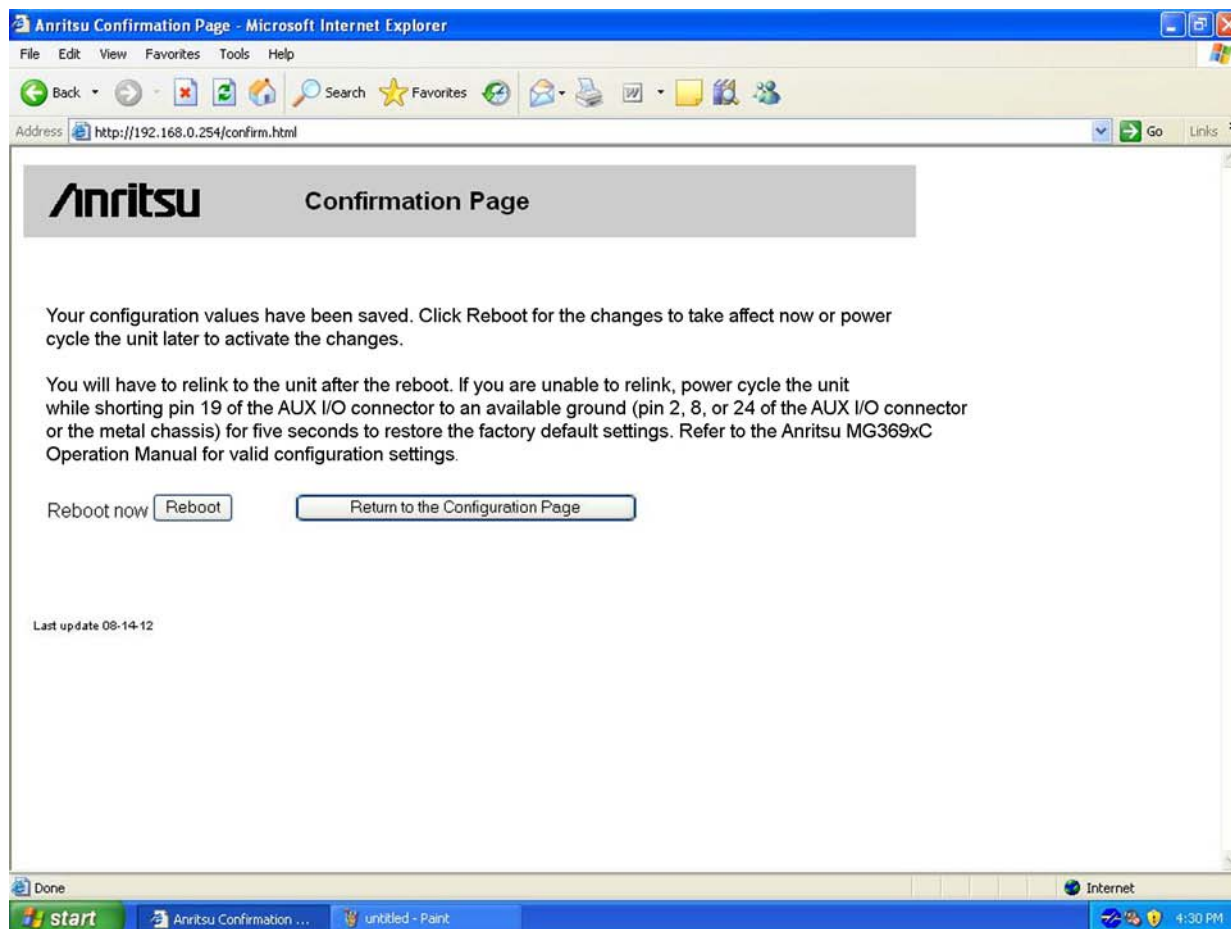

Figure 2-13. Ethernet Configuration Confirmation Page
6. Click the Update Flash button to complete the configuration. The TCP/IP Confirmation Page appears as shown in Figure 2-13 on page 2-17 (refer to "TCP/IP General Requirements and Settings" on page 2-11 for information on the below settings).